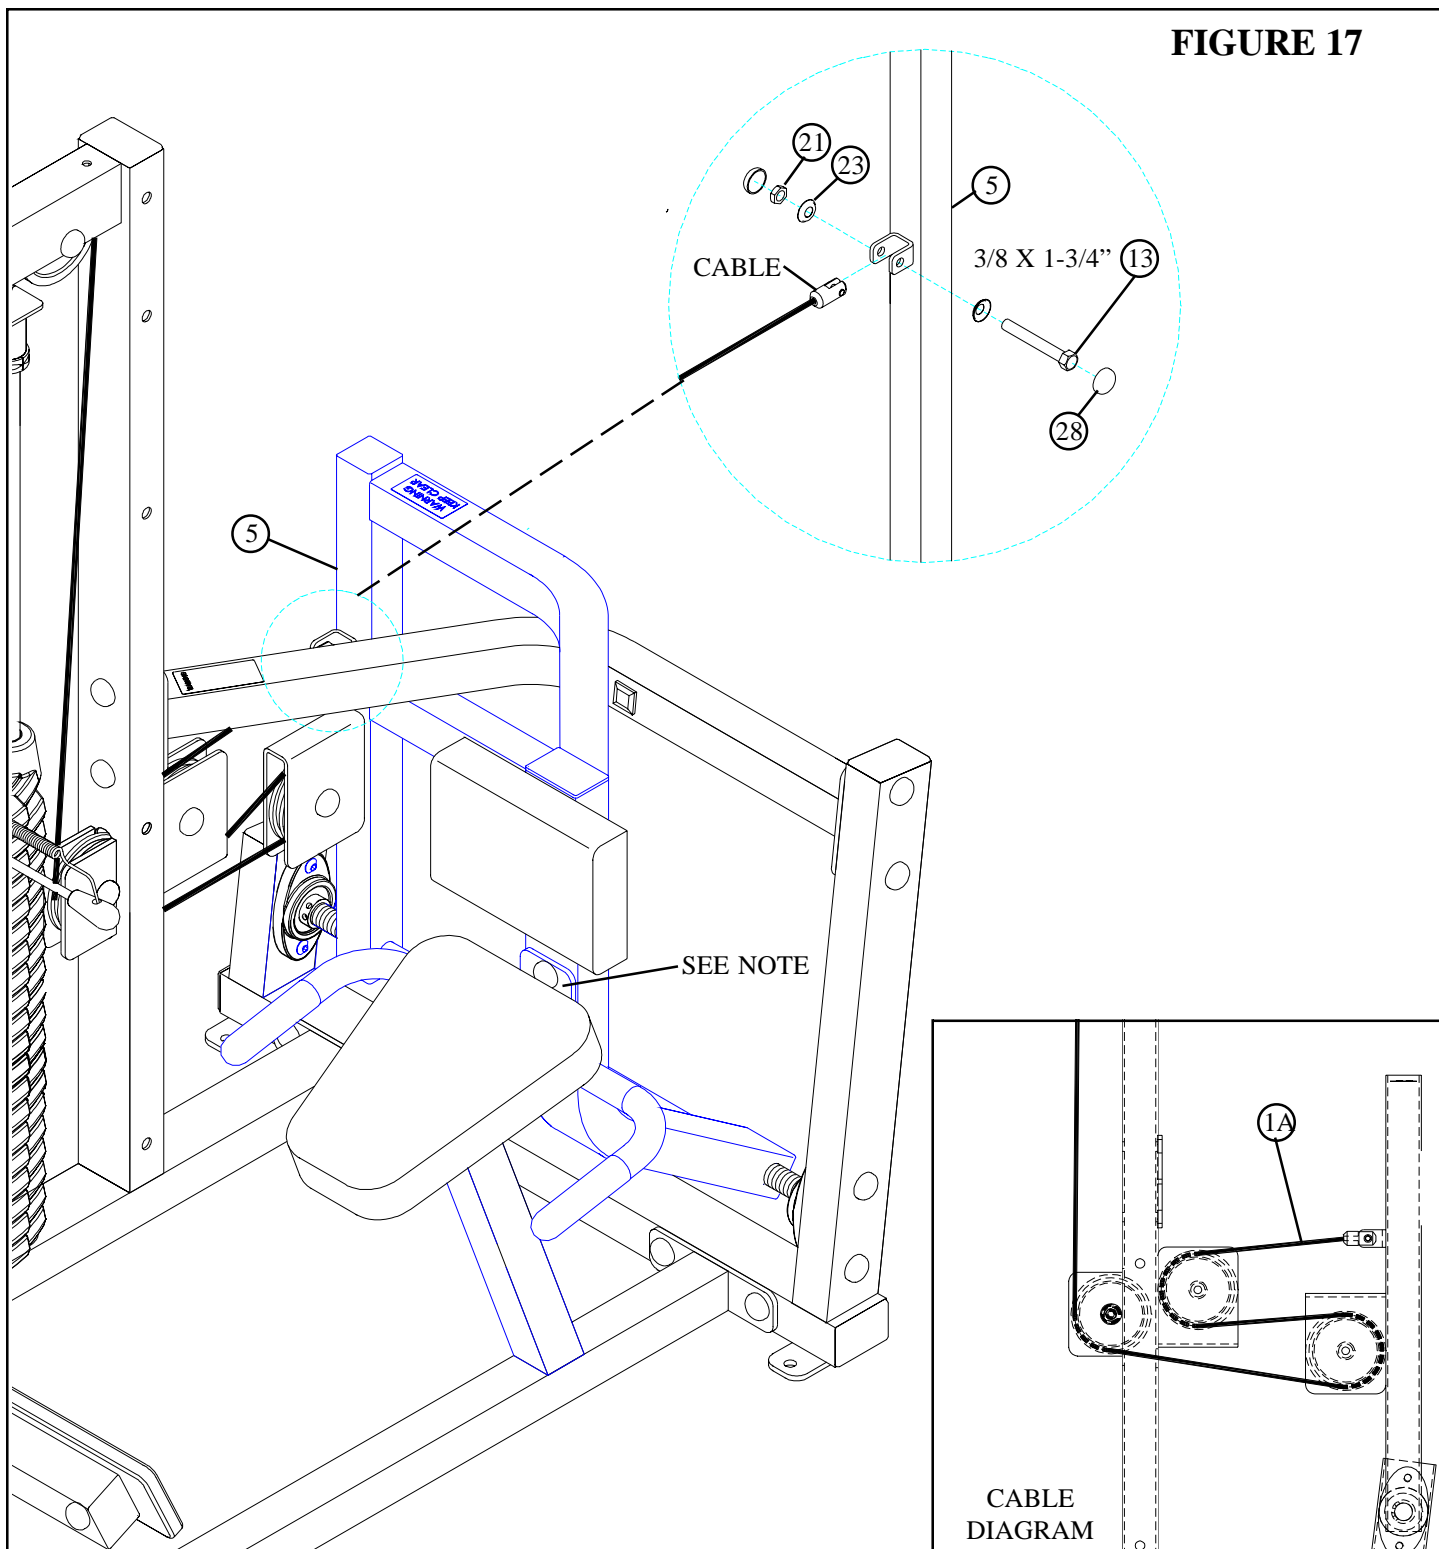

**FIGURE 16**
- **SECURELY** assemble the 4-1/2" PULLEY (39) to the vertical pulley bracket on the TOWER (1) using two RH CAPS (28), one 3/8 X 1-3/4" BOLTS (13), two 3/8" RH WASHERS (23), and one 3/8" LOW HEIGHT LOCK NUT (21).as shown in FIGURE 16.